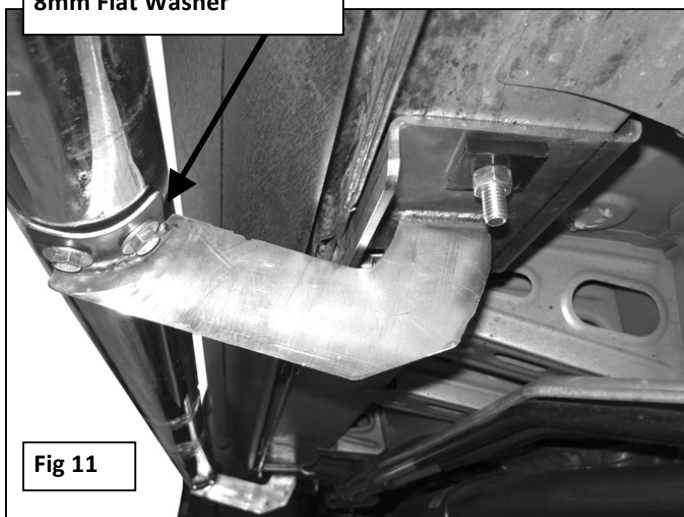

Fig 11
9. Carefully position the passenger Sidebar onto the Mounting Brackets. Bolt the Sidebar to the Mounting Brackets with the included (4) 8mm x 25mm Hex Bolts, (4) 8mm Lock Washers and (4) 8mm Flat Washers, **(Figure 11)**.